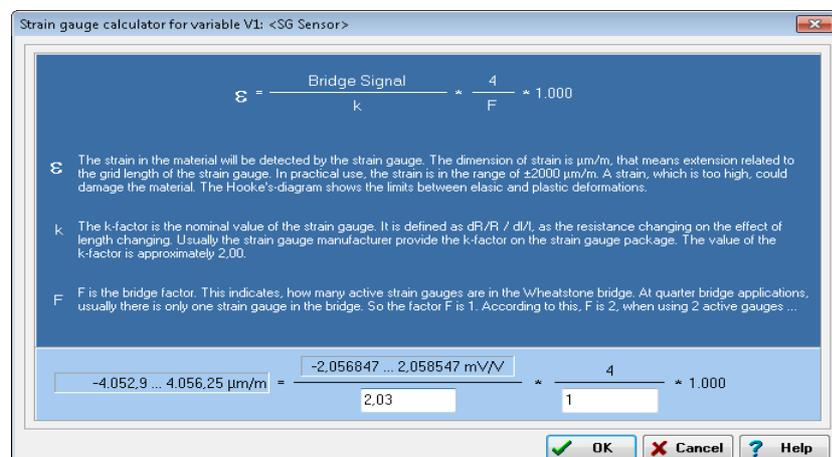

Fig. 7-7 Scaling dialog for strain gauges.
2. Enter the gauge factor of your strain gauge in the left field. The gage factor is a measure of the sensitivity of the strain gauge and is stated on each strain-gauge pack. It is usually between 1.8 and 2.2. Fig. 7-7 shows scaling with  $k = 2.03$ .